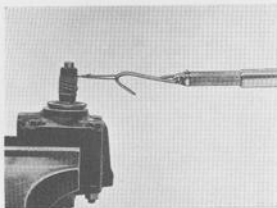

Fig. 6-87. Checking torque
2. Tighten up the valve housing (56) with the large bore facing upwards (see Fig. 6-86). Fit the preassembled worm in the housing. Fit the needle bearing (36), the bearing washer (35) and the cover (30), see Fig. 6-86. Secure the cover with the help of the bolts (50 and 52) and four nuts M8. Tightening torque is 34 Nm ($25\text{ lbf}\cdot\text{ft}$). Check to make sure there is no looseness in the journaling. A torque of $0.15\text{--}0.25\text{ Nm}$ ($1.3\text{--}2.2\text{ lbf}\cdot\text{ft}$) is required to turn the worm. If this is measured according to Fig. 6-87, the scale should give a reading of $17\text{--}29\text{ N}$ ($3.7\text{--}6.4\text{ lb}$).
- Check the worm torque (see Fig. 6-87). This should now be 0.4–0.6 Nm (3.5–5.2 lbf in), that is, the balance should give a reading of 45–70 N (10–15 lb). If any other value is obtained, adjust with the shims. Remove the worm and bearing from the valve housing.